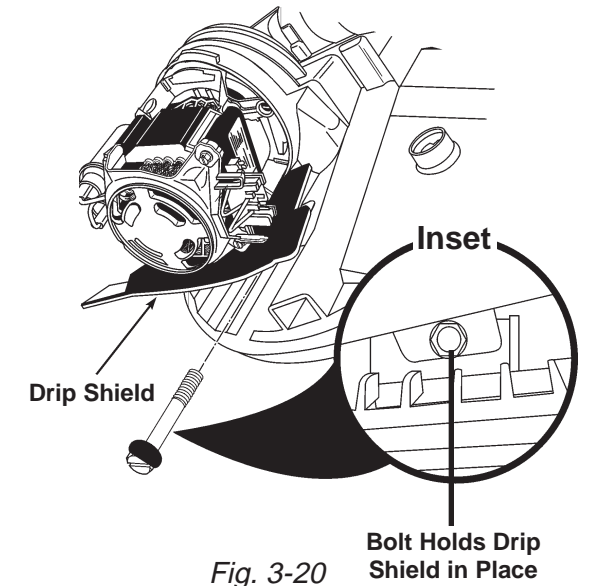

Fig. 3-20
1. Remove the bolt securing the wash motor and drip shield in place on the pump assembly. (Fig. 3-20)